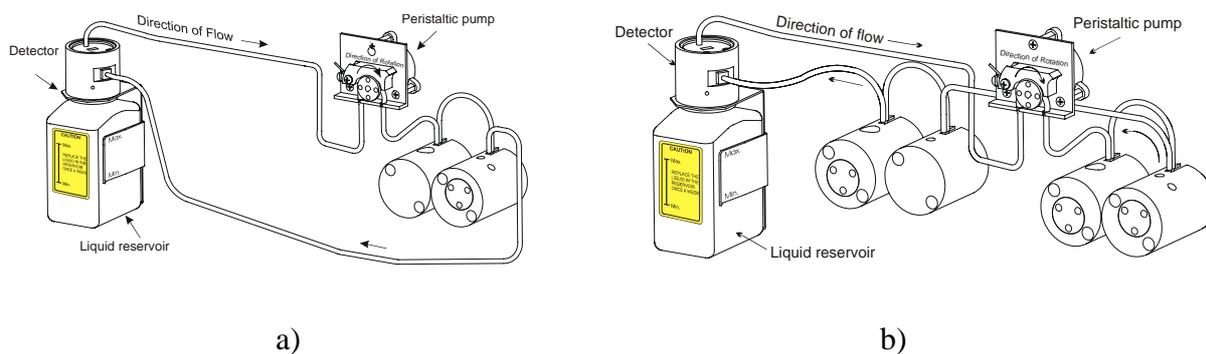

Fig. 23: Active rear-seal wash system (connection)
**i Please note:** The rear-seal wash system for the P680A DGP-6 pump is connected in the same way as illustrated in Fig. 23 b). The only difference is that both equilibration pump heads of the P680A DGP-6 are equipped with a pressure sensor and that both working pump heads are not (→ Fig. 35, page 42).